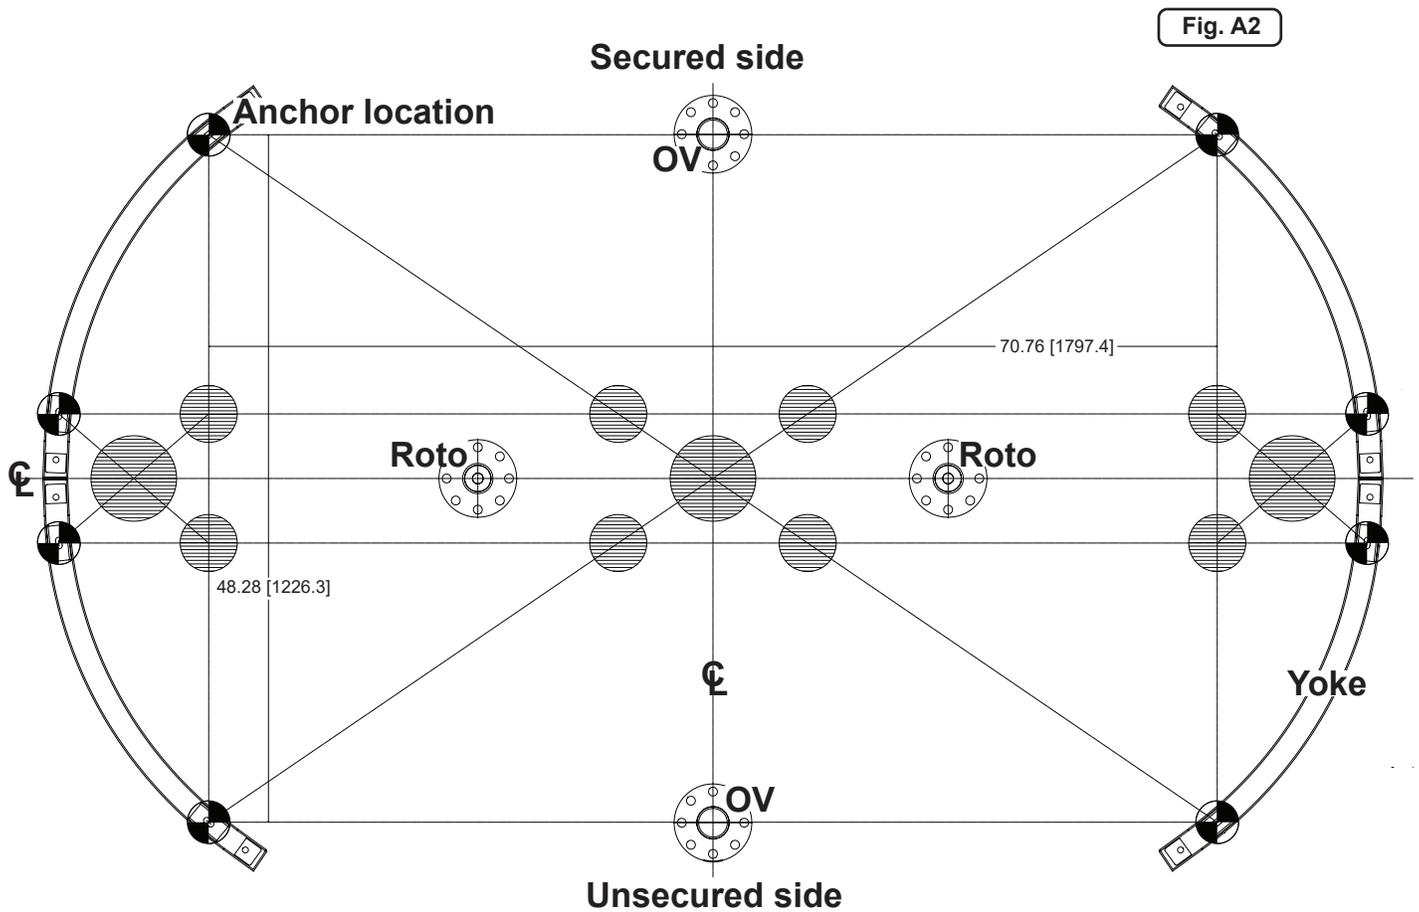

Fig. A2
- Lay the floor template over the installation location while aligning the centerlines - ensure the template is properly positioned to fill the space available and is orientated correctly. [Figure A2]
Follow the steps shown in Appendix A (Figures A2 - A5). When complete, refer to the **Roto Installation** to continue the installation.